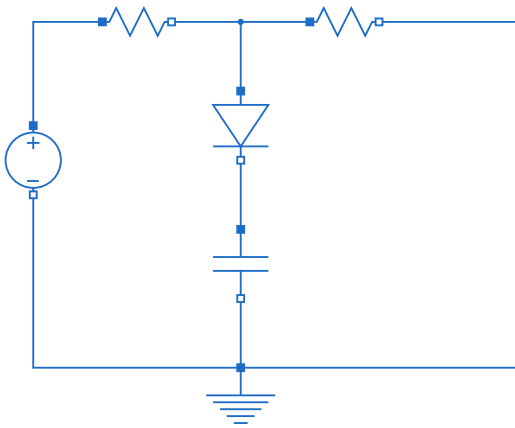

Figure 1: Electrical circuit.
Consider the electrical circuit shown in Fig. 1. The circuit has a sinusoidal source, a resistor, a diode, a capacitor and the ground. You are going to build your first Modelica library from scratch to compose this model.
8. Create a model called `Circuit` in which you include all these components as shown in Fig. 1.